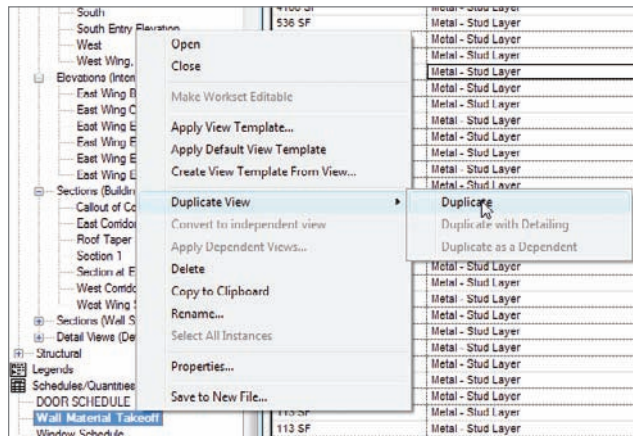

FIGURE 11.31 Duplicating the schedule
1. In the Project Browser, right-click on the Wall Material Takeoff, and select Duplicate View > Duplicate, as shown in Figure 11.31.